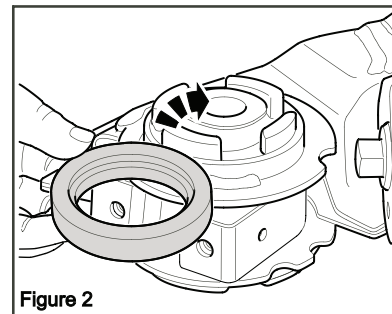
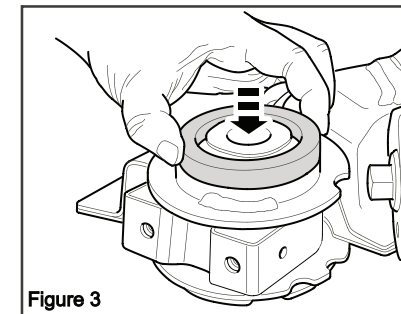

Figure 2
Figure 3
4. Install supplied 67481 bush into the top of the front cradle mount using a small amount of grease supplied. (Figure 2 & Figure 3).